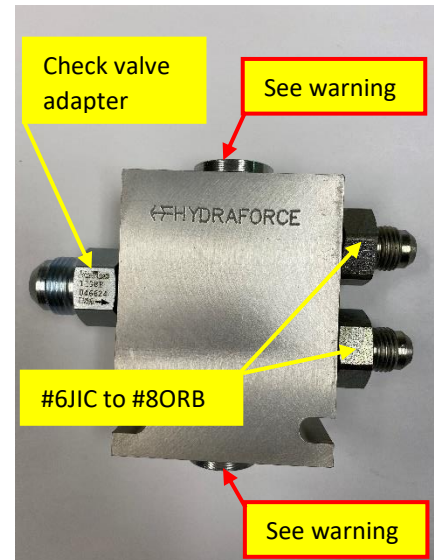

Figure 4
2. Thread and tighten the check valve adapter (**ITEM 8**) into the single port side of one of the hydraulic blocks (**ITEM 5**). Thread and tighten the four #6JIC to #8ORB adapters (**ITEM 6**) into each side of the hydraulic blocks with the double ports and thread and tighten the #8JIC to #8ORB adapter (**ITEM 7**) into the remaining single port on the remaining hydraulic block. **Figures 4 & 5**